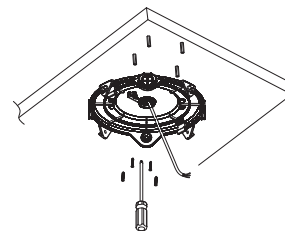

Figure 1-4
4. Fix the driver box cover on the ceiling. Figure 1-4